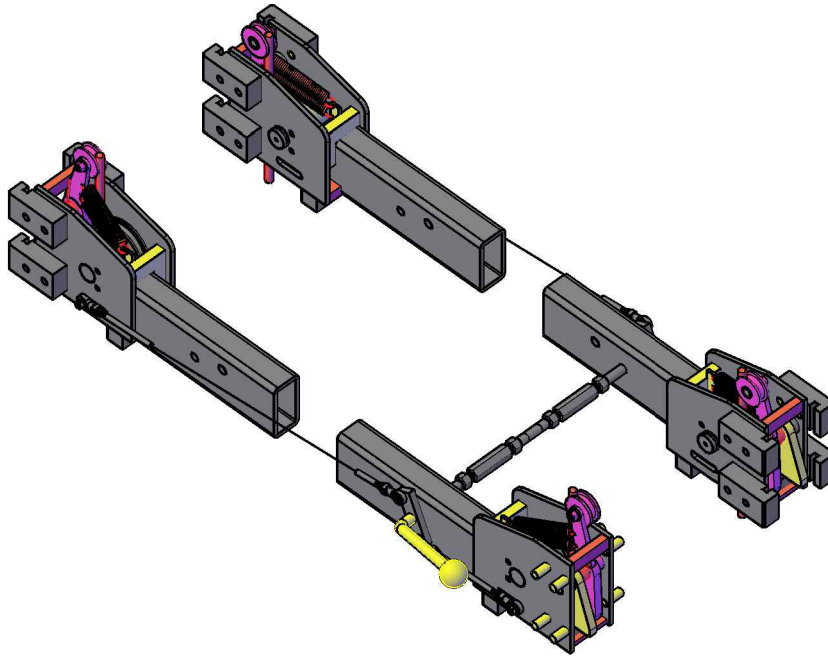

Fig. 9.1
3. Once the locking lever has been installed and all lock nuts have been tightened, then you can install the rod ends to the lever bracket. (See Fig. 9.1).